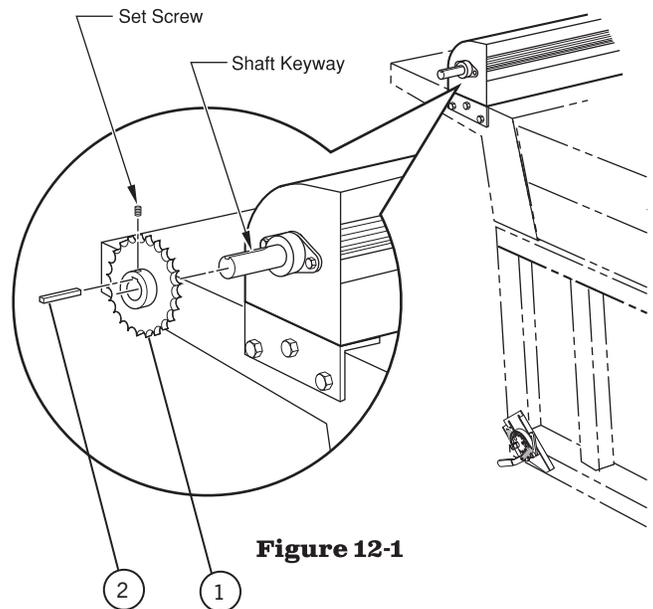

Figure 12-1
- 1) **Figure 12-1.** Slide the sprocket (1) over the outside of the shaft of the driver's side roll up bar. Position sprocket so that it aligns with the crank assembly sprocket.
- 2) Lightly tap the key (2) into the shaft keyway.
- 3) Tighten the Allen set screw on the sprocket until it begins to feel tight. Make sure the screw engages the key (2). Do not over tighten.